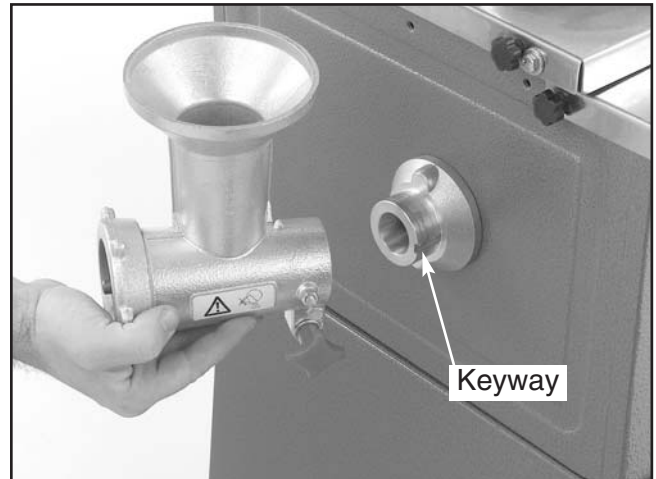

Figure 29. Keyway location.
2. Line up the fixed key on the meat grinder to the keyway on the housing shown in **Figure 29**.